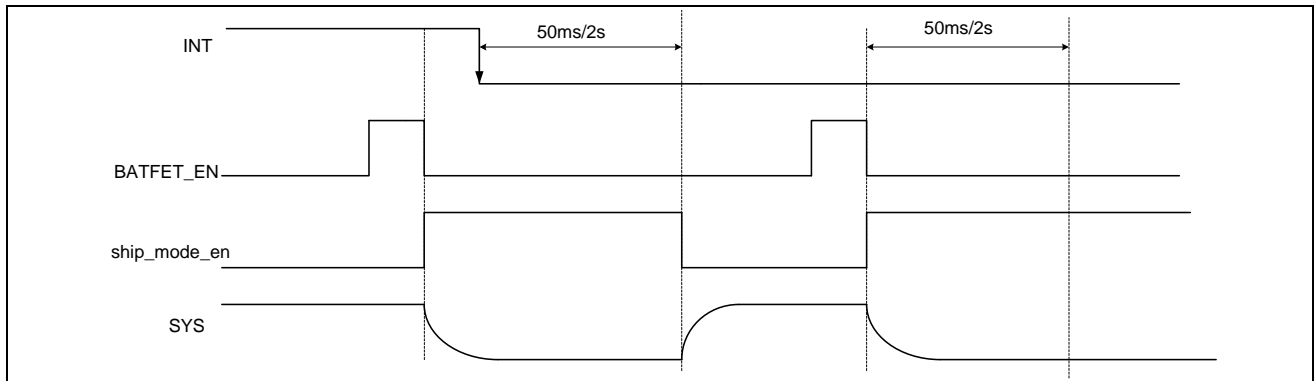

Figure 8. Enter Shipping mode and Exit Shipping mode by INT Low Level
During the normal operation, the battery MOSFET is turned on and this bit is 0. If this bit is set to 1 through I²C, the battery MOSFET is turned off, and the ET9562 enters shipping mode. The BATFET_EN bit is reset to 0 automatically after the battery MOSFET is turned off(refer to Figure 8).
1.1) When the IC is in the shipping mode and only the Battery is present, pulling INT down by pushing KEY1 (see the "TYPICAL APPLICATION CIRCUIT") could wake the ET9562 up from shipping mode. (refer to Table 2 and Figure 8)